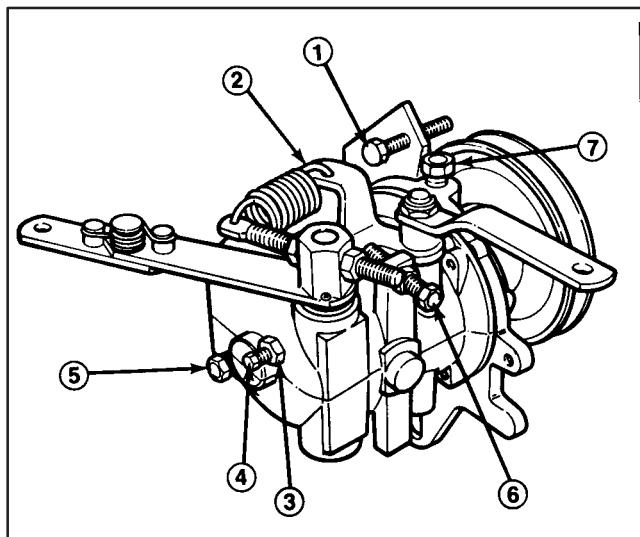

Figure 39
6. Slowly move throttle to FAST position until engine speed reaches  $3200 \pm 100$  rpm. Shut off engine. Adjust high idle stop screw until it contacts speed control lever (Fig. 39).
8. Check V-belts from engine to governor pulley and assure they are tight. If belts are loose, the engine will surge. If belts are tensioned properly, loosen jam nut that retains the anti-surge screw (Fig. 39). Rotate screw clockwise  $1/8$  turn at a time until surging stops. Should governor continue to surge, check the following:
3. Clean area around check plug on governor (Fig. 39)